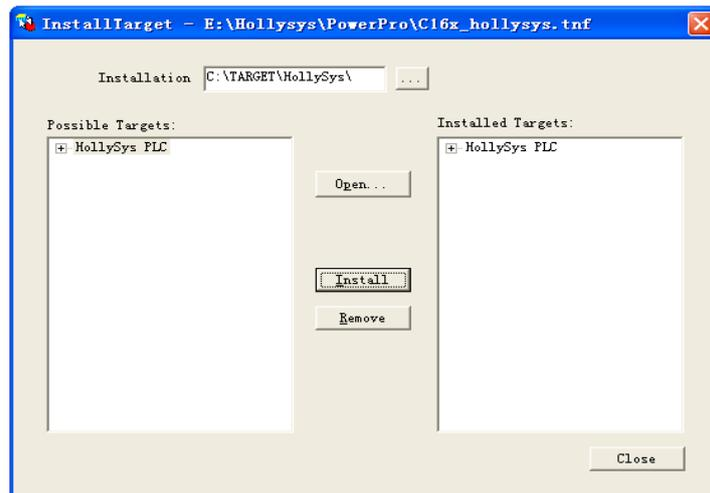

Figure 1-3-4 Install Target (4)
- Then the same target file “HollySys PLC” is generated in the window of “Installed Targets” on the right of the “InstallTarget” window. Click “Close” button to end the installation, as shown in figure 1-3-4.